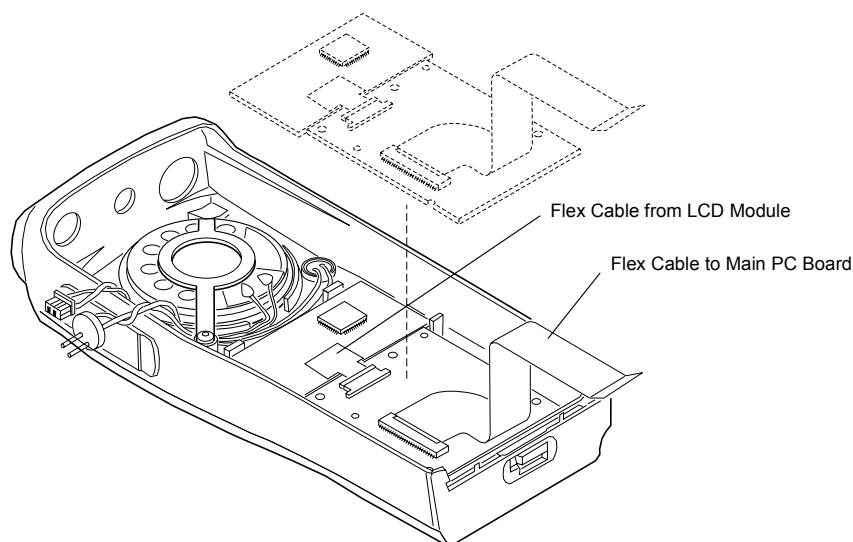

Figure 7-15. LCD/Keypad Board Re-assembly
1. Attach the flex cable connector from the LCD module to the keyboard, if not already attached (Figure 7-15).
5. Install the LCD/Keypad sub-assembly into the housing (Figure 7-15).
7. Bend the flex cable connector as shown (Figure 7-15).